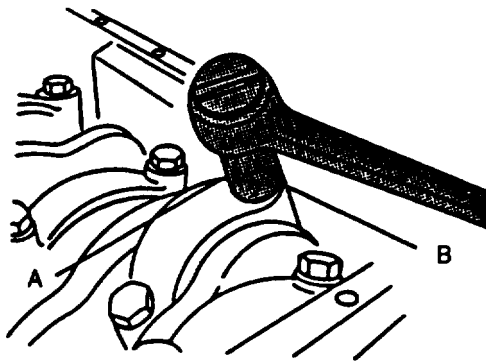

FIGURE 3-152. Tightening Connecting Rod Caps
- h. Dip new connecting rod capscrews (1) in clean engine lubricating oil (MIL-L-2104) and install. Tighten capscrews alternately to 41 ft-lbs (56 Nm).
- (1) After tightening capscrews (1) to the values given above, mark connecting rod cap (A, FIGURE 3-152) and socket.
- (2) Make a second mark on socket 90 degrees counterclockwise from first mark.
- (3) Tighten 1/4 turn (90 to 100 degrees) clockwise until mark (B) is in line with mark (A) on cap.